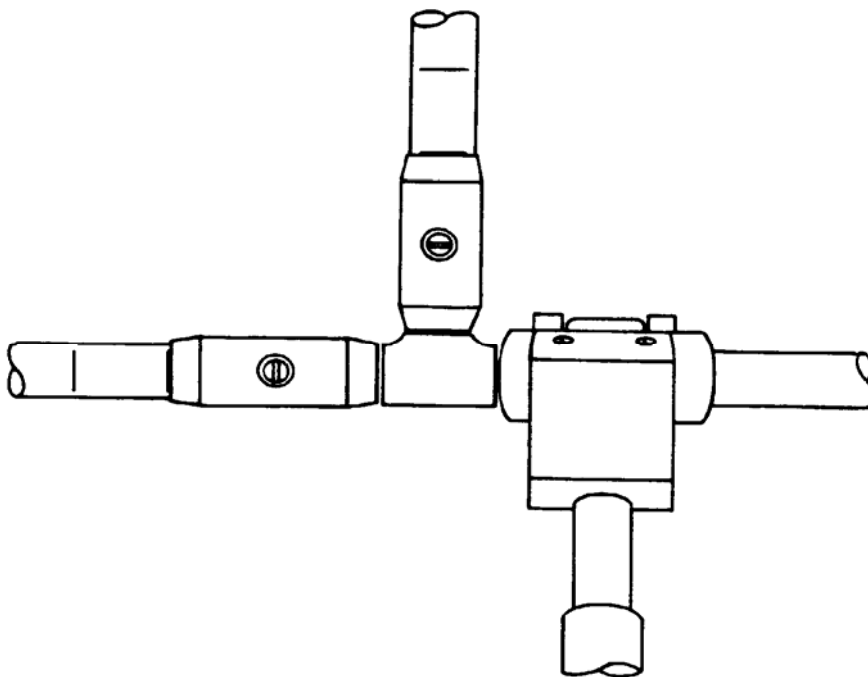

Figure 14. Installing Coupling
o. Deflect the tube and, using the installation tool, slip the coupling over the end. Realign the tube and slide the coupling against the fitting shoulder (Figure 14).